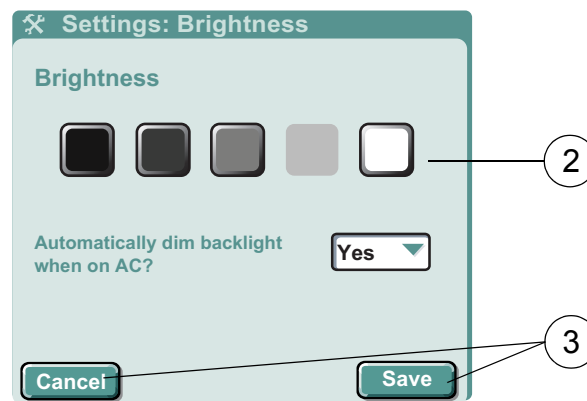

Figure 14: Settings Brightness Screen
1. On the **SETTINGS SCREEN**, press **Brightness** to display the **SETTINGS BRIGHTNESS SCREEN**. See Figure 14 below.